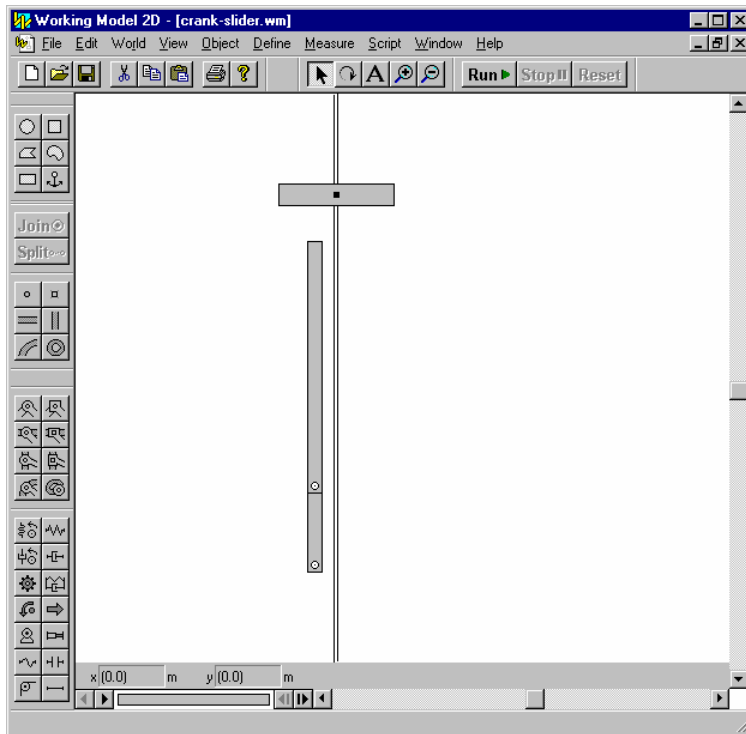

Figure 17. Crank slider example, Step 4.
4. Now draw a small horizontal link, Figure 17, and attach a Square Point Element  to its middle.